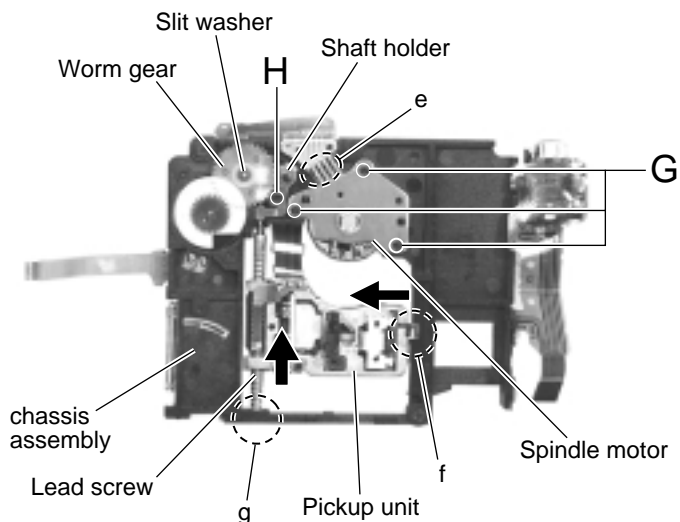

Fig.9
**■ Removing the spindle motor (See Fig.9)**
**■ Removing the pickup unit (See Fig.9)**